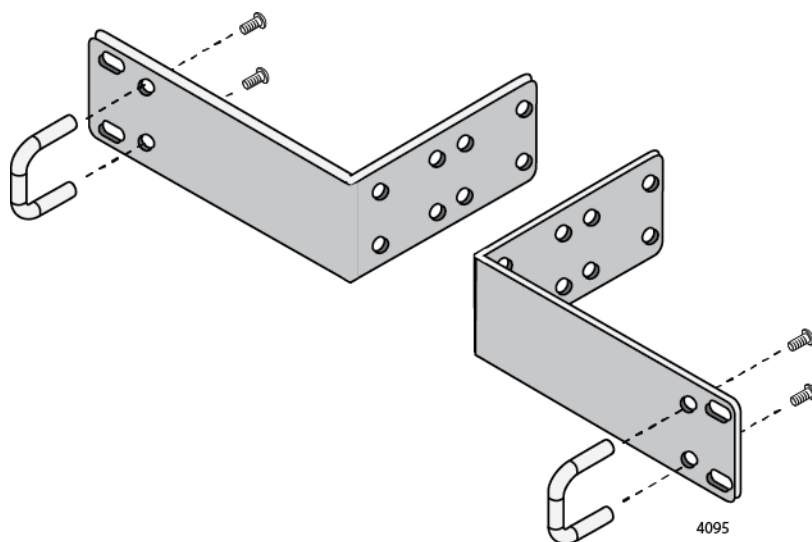

Figure 25. Attaching the Handles to the AT-RKMT-J14 Brackets
1. Attach the two handles to the AT-RKMT-J14 Brackets using the four M3x6mm screws included with the switch. Refer to Figure 25 on page 66.